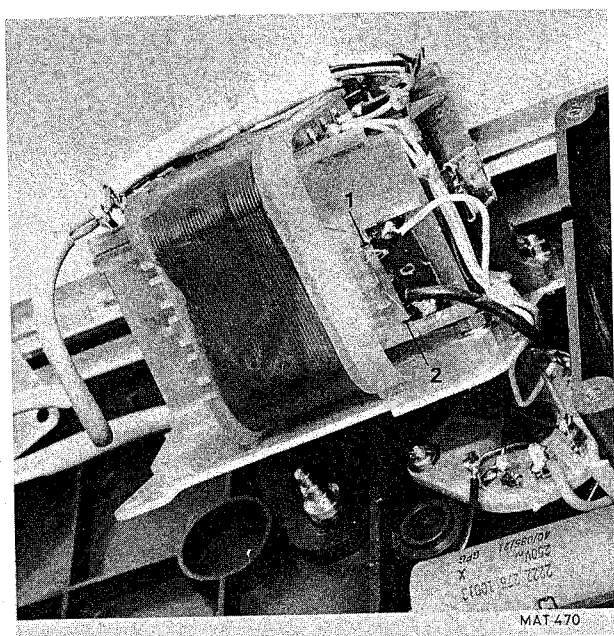
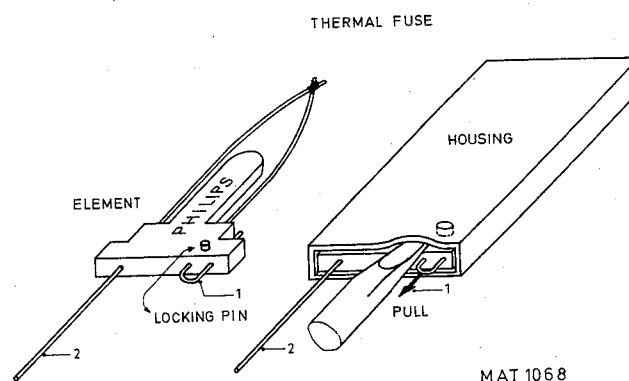

Fig. 6.1.
Fig. 6.2.
- Unsolder fuse terminals 1 and 2 (Fig. 6.1. and Fig. 6.2.).